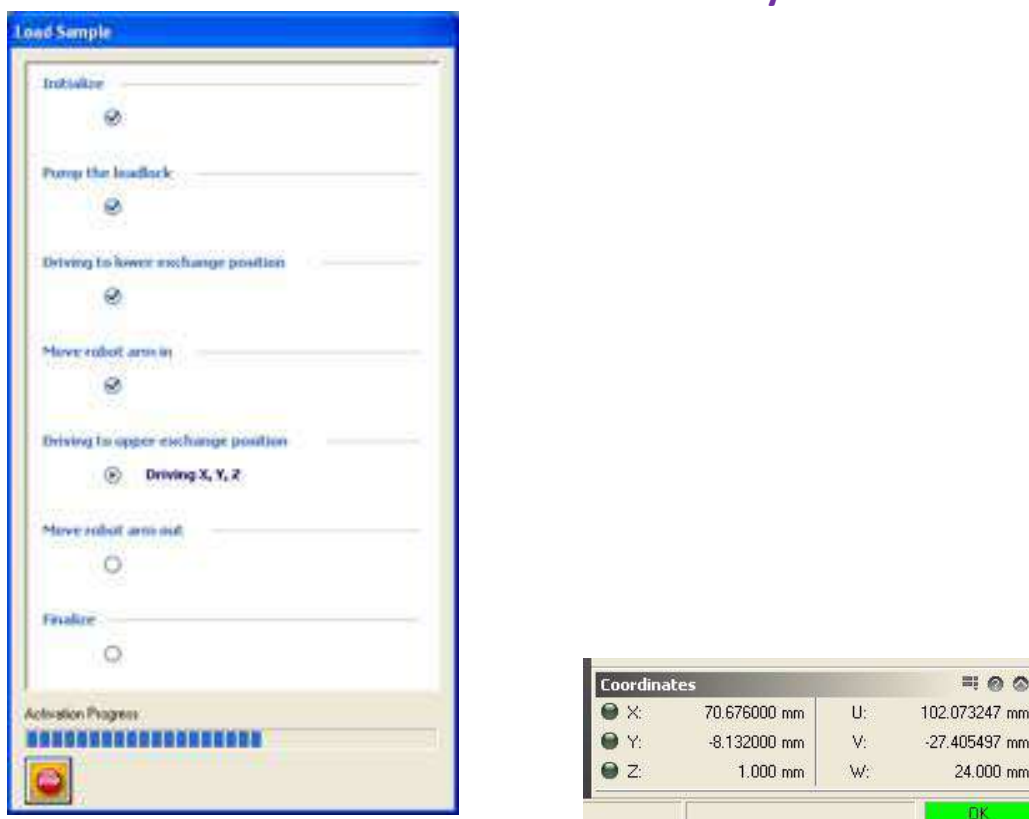

Figure 9(a) Sample loading details, and (b) Co-ordinates.
7. The loading process will begin. A window will pop-up as shown in Fig. 9(a) detailing the loading process. As a useful habit, track the movement of the sample holder by observing the **Coordinates** tab on the bottom right of the Raith window. The **Coordinates** tab is shown in Fig. 9(b).